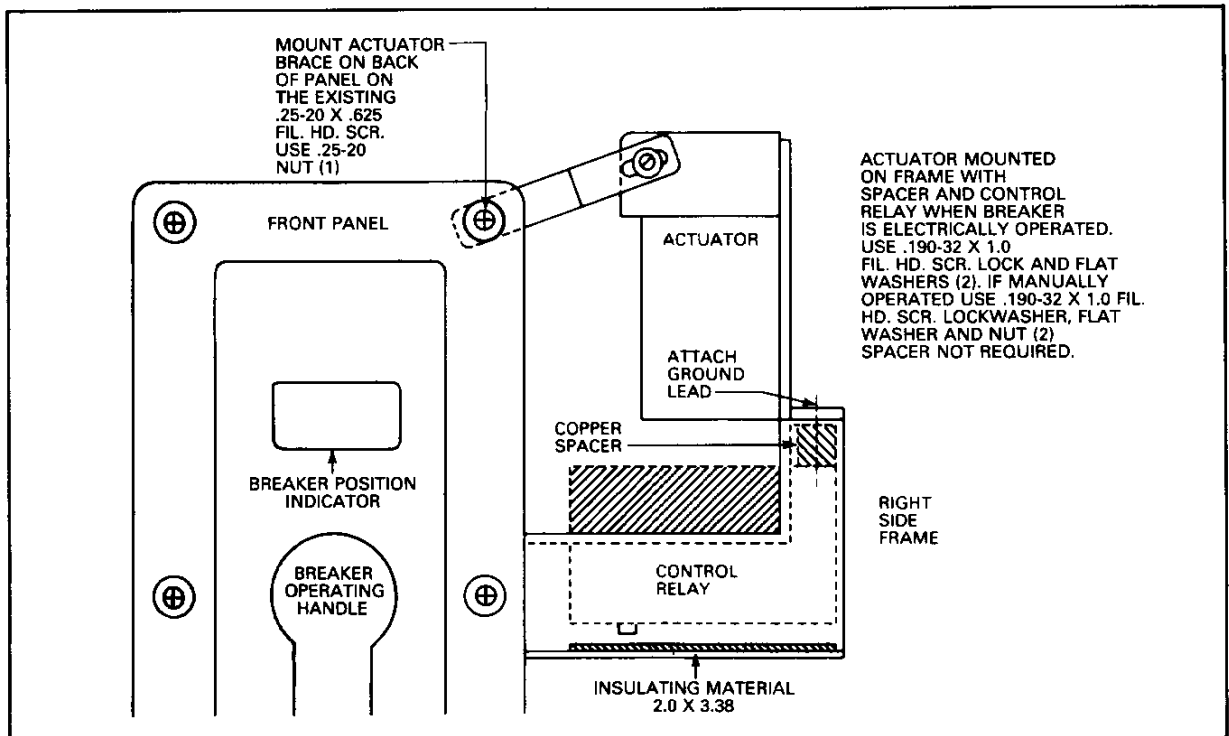

Fig. 6
- Step 6: Secure the cross brace between the actuator and existing .25-20 x 5/8" phillips head screw located on the top right of the front panel using a .25-20 nut. See Fig. 6.